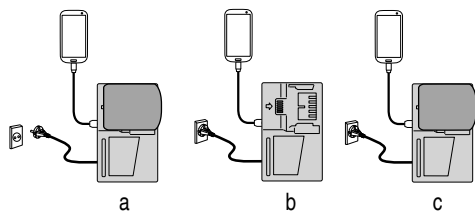

Fig. 12
○ Charging a USB device by battery (Fig. 12-a)
○ Charging a USB device from a electrical outlet (Fig. 12-b)
- Charging a USB device and battery from a electrical outlet (Fig. 12-c)